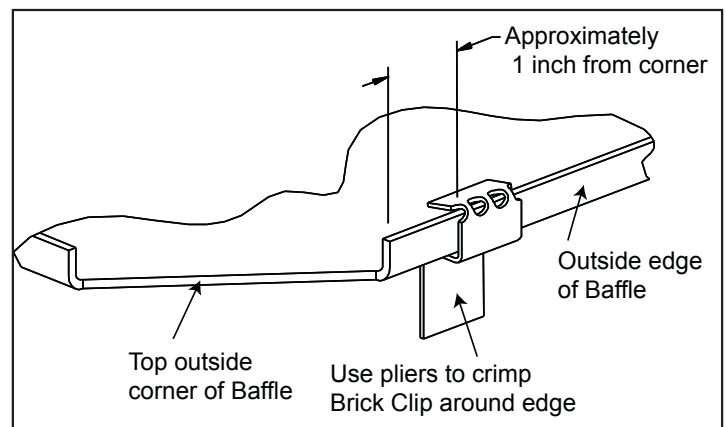

Figure 20.4
3. Using pliers, bend the brick clip slightly past 90° in the direction shown in **Figure 20.4**.
4. Position the brick clip as shown in **Figure 20.4** and use pliers to crimp around the outside edge of the baffle as shown in **Figure 20.5**.